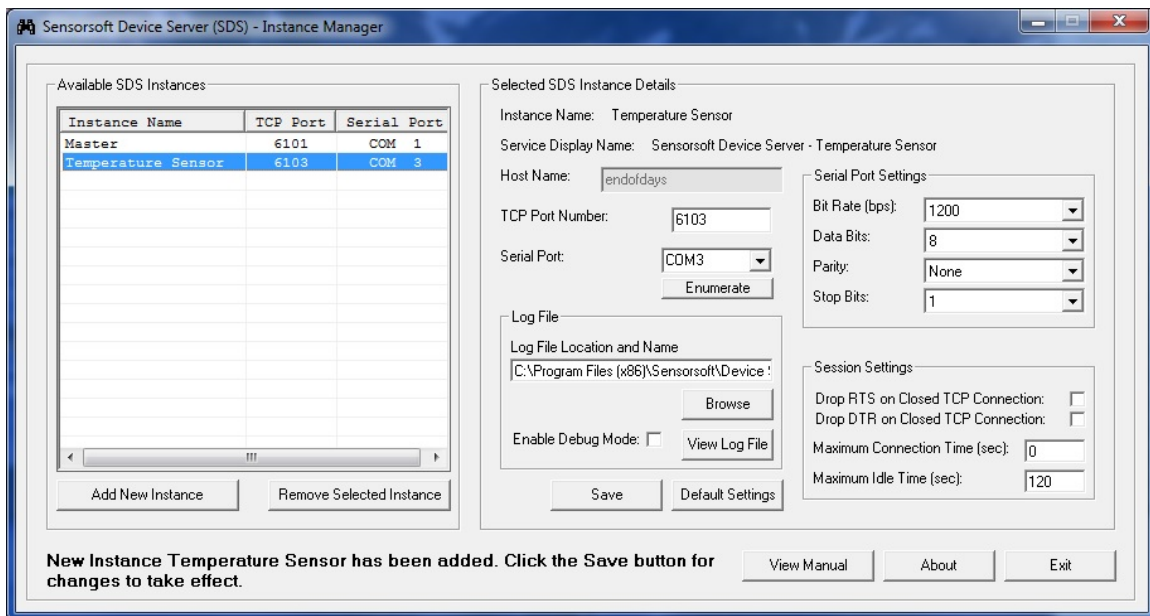

Figure 4
5. After clicking on the 'Create Instance' button, the new SDS instance will be created with the default settings. The new instance name with its TCP port and serial port will be displayed in the Available SDS Instances panel located on the left half of the SDS Instance Manager app as shown in the Figure 4. A folder with the instance name will be created as a subdirectory in the SDS base installation folder. In the Windows Service Control Manager, the service name for the new instance will be "SDS_<Instance Name>" and the display name will be "Sensorsoft Device Server - <Instance Name>." At the bottom of the SDS Instance Manager window a message like the following will appear - "**New Instance <Instance Name> has been added. Click the Save button for changes to take effect.**" Clicking the 'Save' button will create the new instance, save its settings, and start the service.